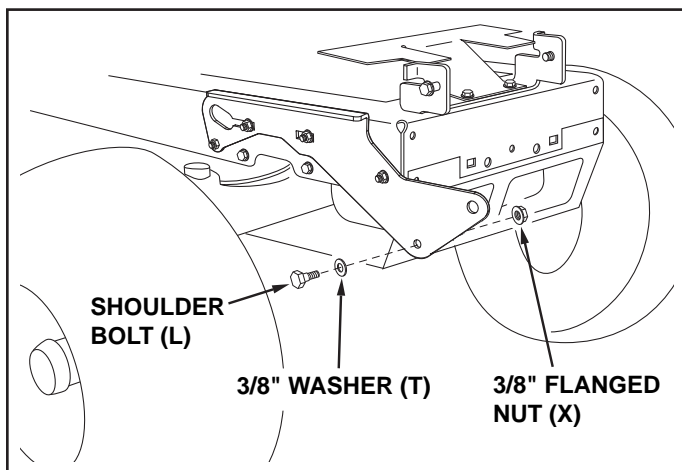

FIGURE 4 RIGHT SIDE VIEW
STEP 4: (SEE FIGURE 4)
- Assemble a shoulder bolt (L) and a 3/8" washer (T) to the outside of R.H. side plate, securing it with a 3/8" flanged nut (X). Repeat for L.H. side plate.